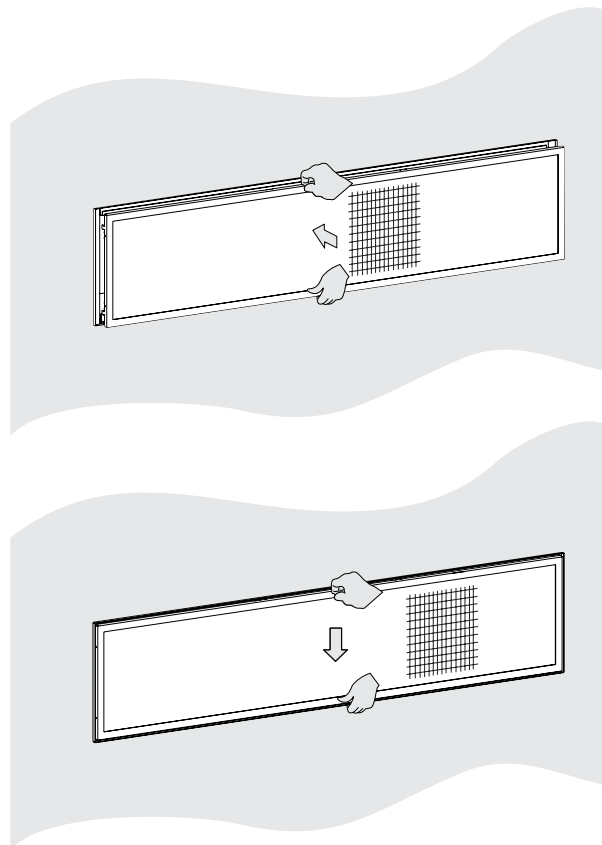

Figure 4
3. Reinstall the Barrier Screen onto the fireplace by lining up the tabs with the slots in the firebox. Push the barrier screen toward the unit and lower it slightly to lock in place. **See Figure 4.**